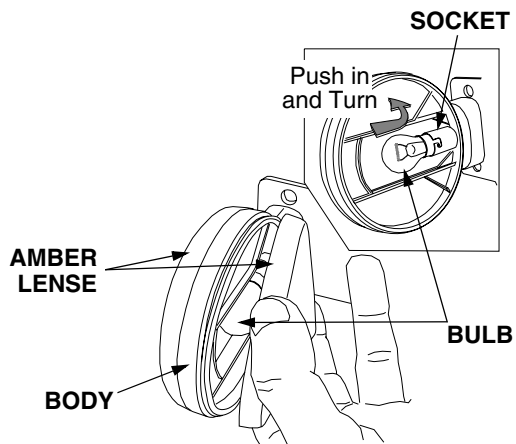

Figure 36
- Insert a **thin** bladed screwdriver, or similar tool, between an amber lense and the hazard light body, then twist to separate the lense from the body. See Figure 36.
- Push the bulb inward and turn counterclockwise, then pull the bulb outward to remove from the light socket. Refer to Figure 36.